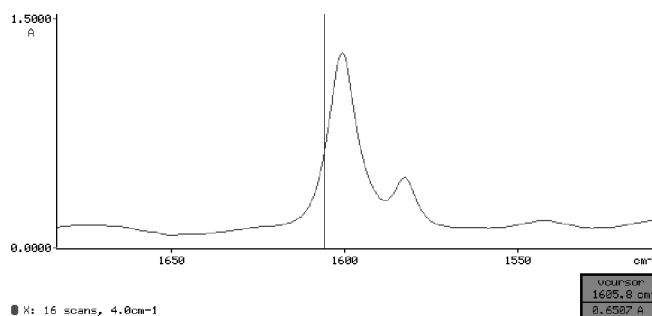

Figure 3-62 Determining the Band Width at Half Height
- e Move the cursor to the point on the left-hand side of the band where the band is approximately half its full height (Figure 3-62).
The command line is similar to Figure 3-62.